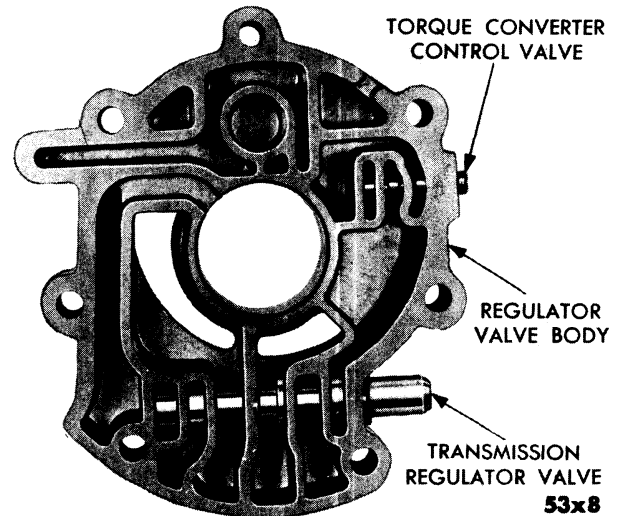

Fig. 96—Valves in Valve Body
- (3) Check regulator valve spring seat (snap ring). After both valves and regulator valve body have been thoroughly cleaned and inspected, they should be placed on clean paper and covered with clean shop towels until ready for installation. Leave valves in regulator body bores until ready for assembly. This will help to prevent damage. (Fig. 96.)